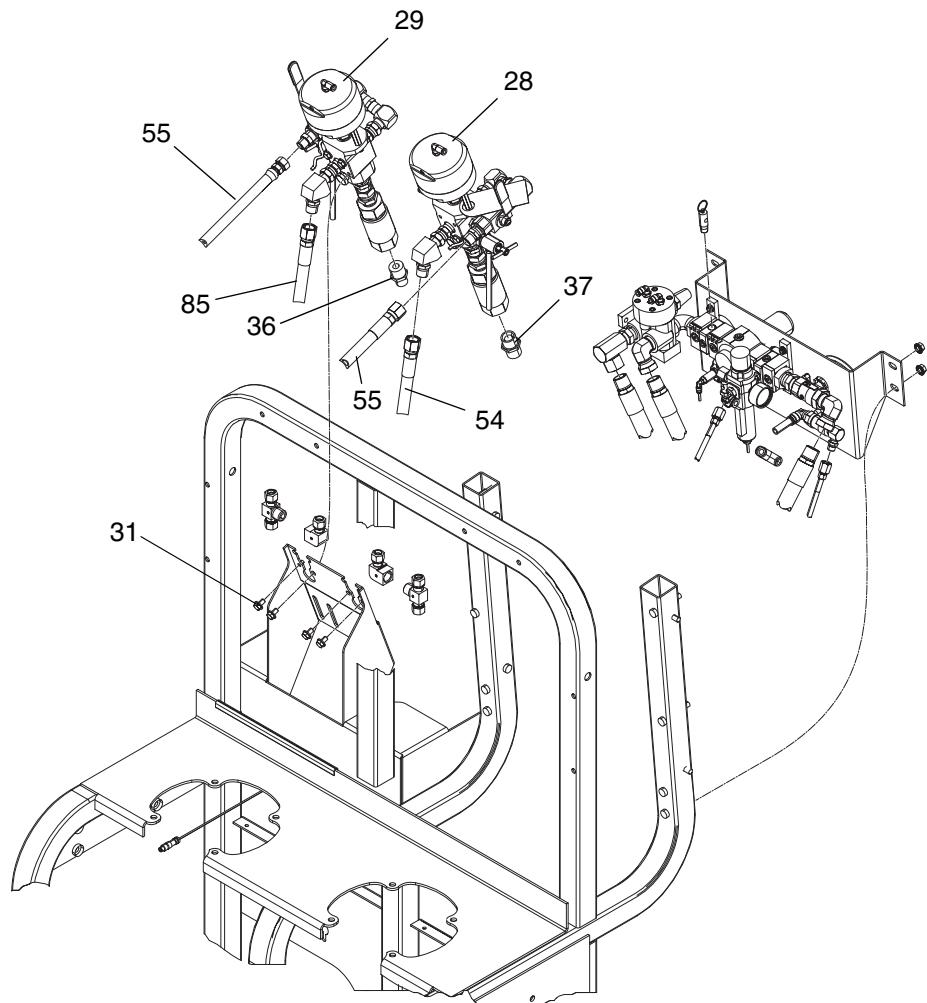

FIG. 6
2. Disconnect all fluid lines from dosing valves (28 or 29). See FIG. 6.
3. Remove two bolts (31) securing dosing valve to bracket.
5. Disconnect pressure sensor (831) from dosing valve. See page 50.